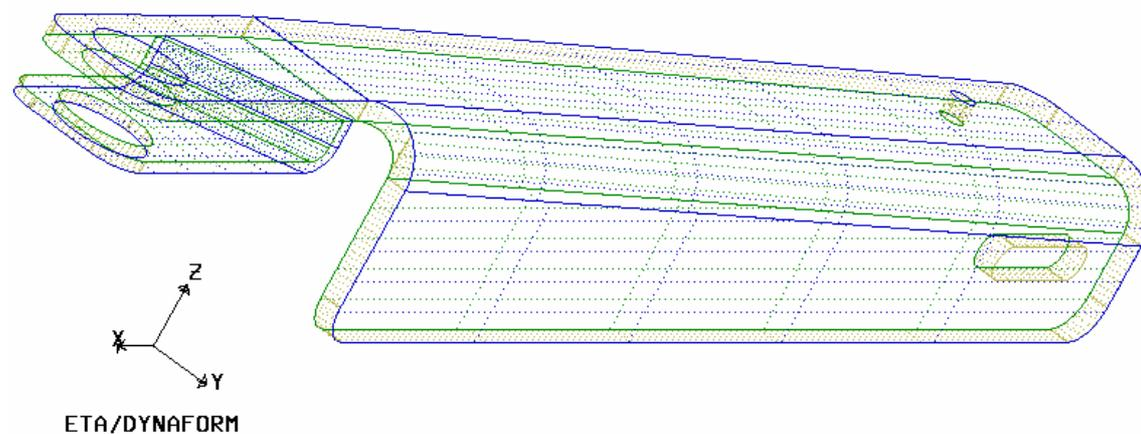

Figure 5.2.18 Result of Grouping
9. Click **DONE** on Figure 5.2.16 to finish grouping. The result is seen in Figure 5.2.18.